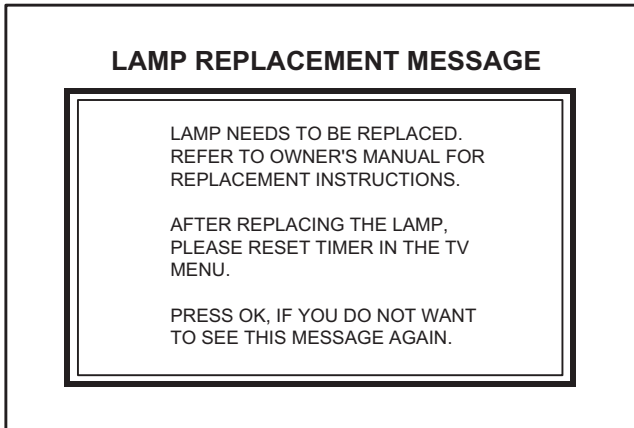

Fig.1
- (1) The lamp replacement message will appear when need to change the lamp. After replace the lamp, need to reset the timer which is built into TV.
- (2) Life of the lamp unit is about **6000 hours** over. Lamp use time can be check at the lamp message MENU.
- (3) If Fig.1 message appears when turn the TV on, need to replace the lamp.
- (4) Use the lamp timer reset only after replacing the lamp.